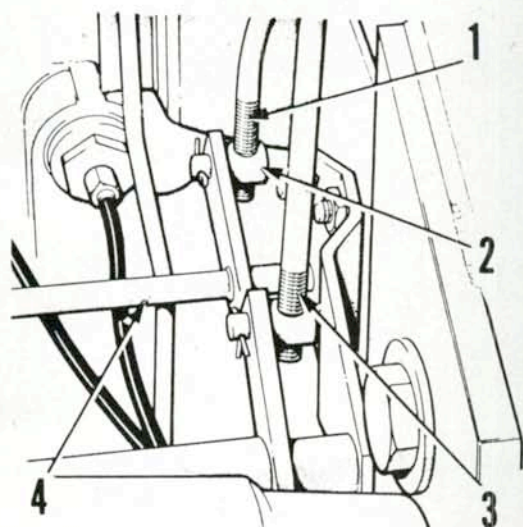

Fig. 312—Lift control linkage adjustment points.
tacting either end of slot in console. To adjust control lever, disconnect lift control rod (1—Fig. 312) at the cross shaft arm (4). Position the lift control lever so there is 1/8 to 1/4 inch (3-6 mm) clearance between front of lever and lower end of slot in console. Rotate cross shaft (4—Fig. 312) fully clockwise, then adjust trunnion (2) on control rod so that trunnion will fit into hole of cross shaft while maintaining required clearance between control lever and console slot.